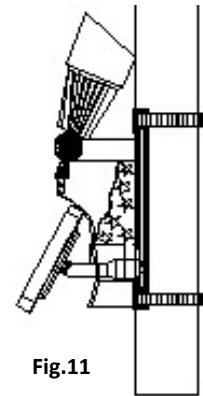

Fig.11
- Fix the pole light unit to flag pole by using stainless steel clamps. There are different sizes of clamps suitable for different size of flag pole. (Fig.11)